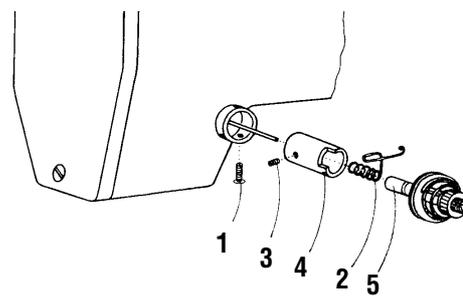

Fig. 23
25. Setting of the adjusting spring function (Fig. 23)